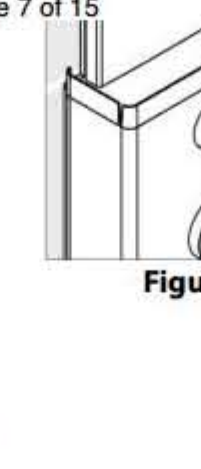

Figure 15
- Install the side seals on the front cover. (See Figure 15.) Trim off any excess.